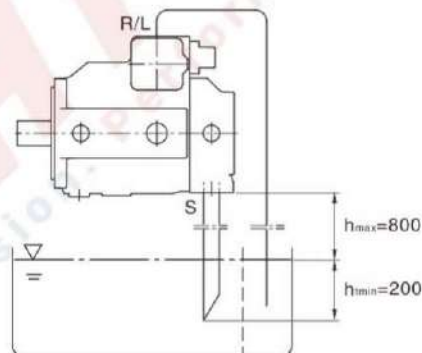

Figure 4
- b) When the minimum level in the tank is lower than the upper end of the pump, the drain port and possible port S must be connected with pipes. (See Figure 4). This situation is same as what is specified in (a) Mounting outside of the Tank in this section.
- a) For mounting on the tank, see Figure 4.